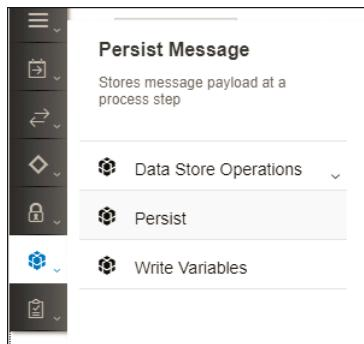

Figure 9.39 Selecting the Persist Step from the Palette
3. Add the **Persist Message** step to the integration flow. The **Persist** step can be found in the palette on the left, as shown in Figure 9.39.